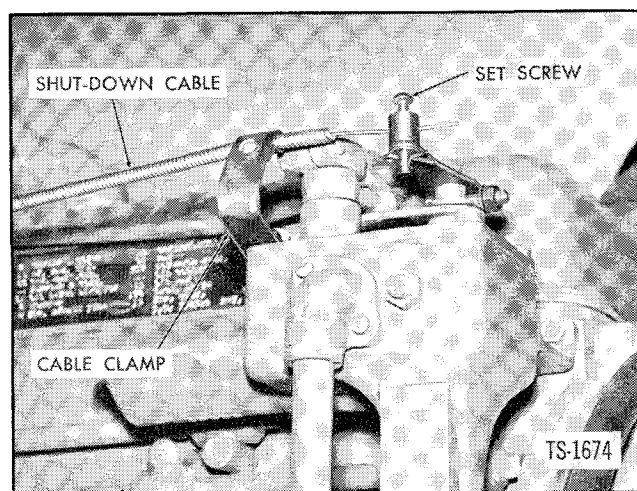

Fig. 29. Adjust Fuel Shut-Off Control (G.M. Diesel)
4. Adjust cable length if necessary at clamp or at lever. See Figure 29.